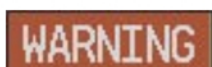

Figure 10-1 WARNING Softkey Annunciation
- **WARNING:** This level of alert requires immediate pilot attention. A warning alert is annunciated in the Annunciation Window and is accompanied by a continuous aural tone. Text appearing in the Annunciation Window is RED. A warning alert is also accompanied by a flashing **WARNING** Softkey annunciation, as shown in *Figure 10-1*. Pressing the **WARNING** Softkey acknowledges the presence of the warning alert and stops the aural tone, if applicable.